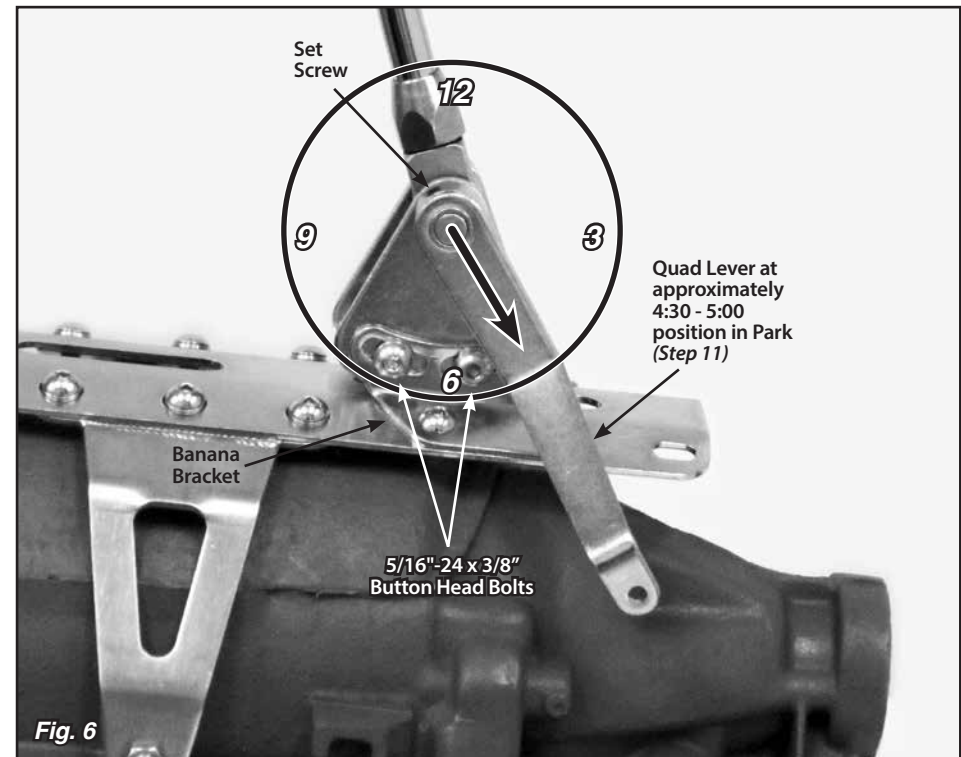

Fig. 6
**Step 10:** Make sure the two 5/16"-24 x 3/8" button head bolts that attach the left side banana bracket to the shifter assembly (in the curved, slotted holes) are tight. Before tightening the shifter assembly down to the main plate, move the shifter lever through all the gear positions. Make sure that the shifter lever and knob do not come in contact with the dash or the seat. The shifter assembly can be tilted forward or backward if needed by loosening the 5/16"-24 x 3/8" button head bolts in the curved, slotted holes in the left side banana bracket. **Fig. 6**
**Step 11:** Put the shifter lever into the Park position and check the position of the quad lever. It will need to be pointing to about the 4:30 position. If it is not, loosen the set screw in the top of the quad lever with a 1/8" Allen wrench and slide the quad lever off of the shaft. Reposition it on the shaft at approximately the 4:30 - 5:00 position, and retighten the set screw. **Fig. 6**
Double check to make sure that the bolts connecting the **left** side banana bracket to the shifter assembly are tight. **Fig. 6**